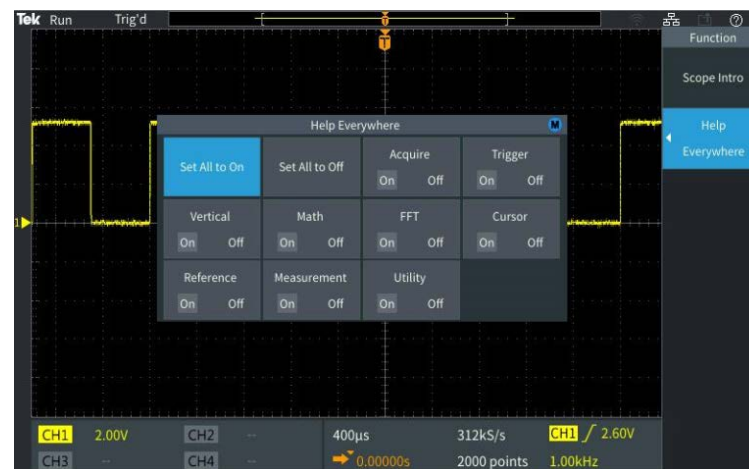

Figure 1. Turning on HelpEverywhere
2. Press **HelpEverywhere** bezel button (Figure 1).